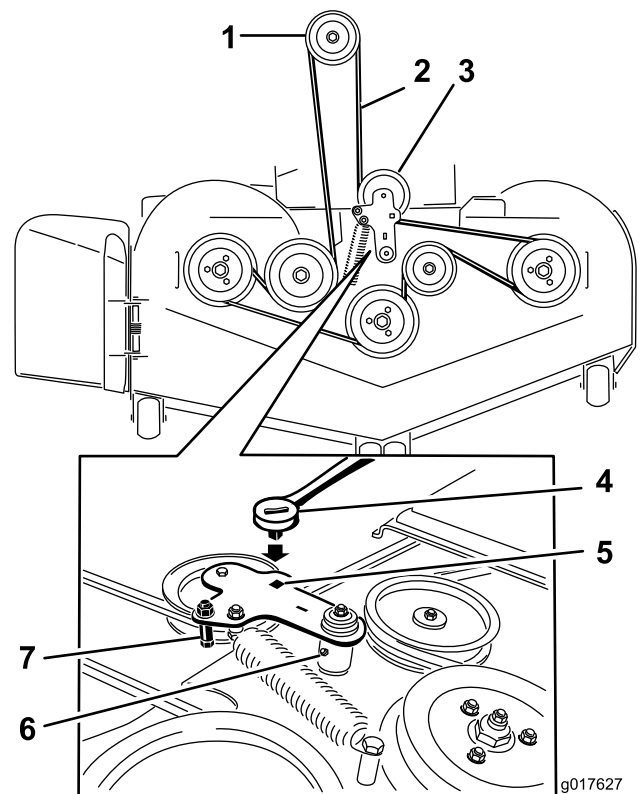

Figure 80
5. Lift up the floor pan and insert a ratchet into the square hole in the deck idler (Figure 80).
6. Rotate the deck idler clockwise and remove the mower belt (Figure 80).